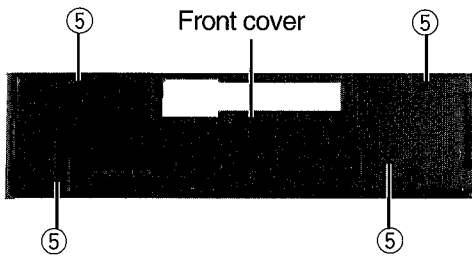

Fig. 9
■ Removing the Operation Switch board ( See Fig. 9~13 )
3. Remove the four screws ⑤ retaining the front cover.
5. Insert and disengage ① the two engagements to the screwdriver.
7. Insert and disengage ⑨ the one engagements to the screwdriver.
9. Insert and disengage ⑩ the two engagements to the screwdriver.